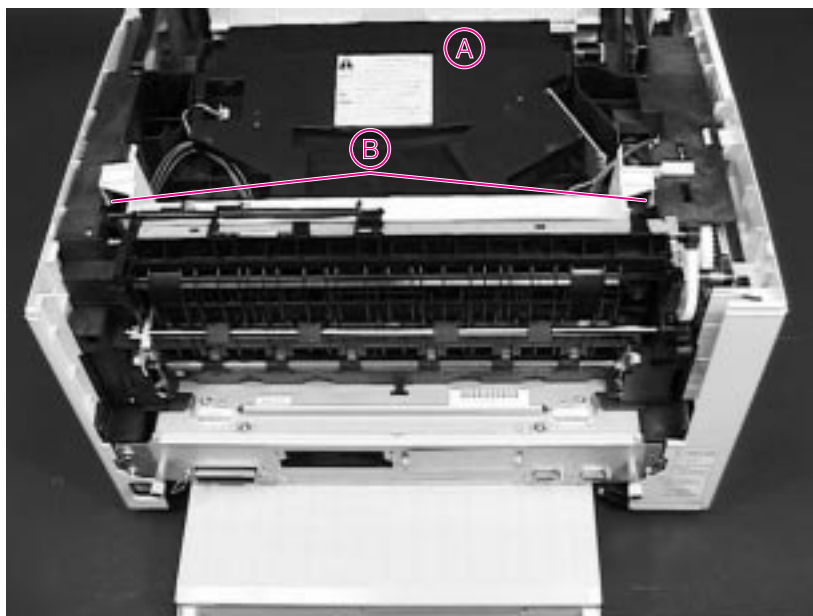

Figure 6-14 Location of Face Down Assembly Base
- 3 Squeeze the locking tabs inward, one side at a time, to release the Face Down Assembly. See Figure 6-14